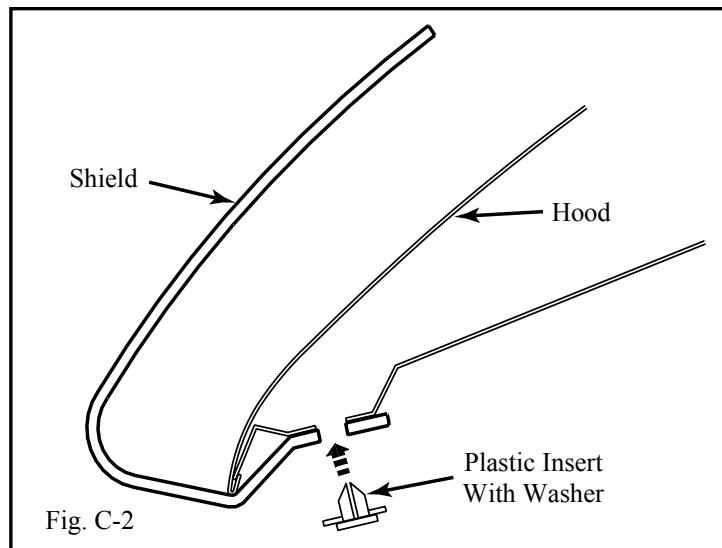

Fig. C-2
- i. Insert the four (4) plastic inserts through the shield slots and into the hood. (Figure C 2)